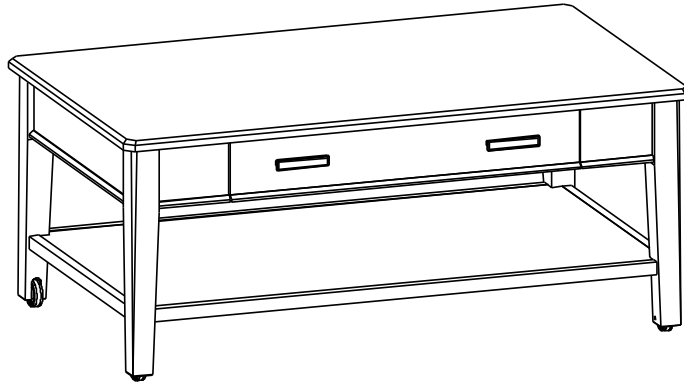

Fig. 7
7. Turn the table upright and insert the Drawer. See Figure 7.